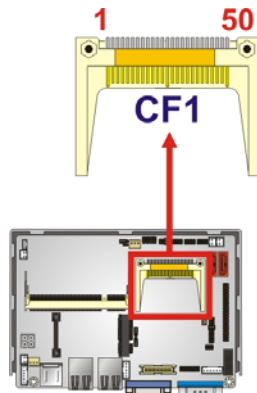

Figure 3-4: CF Card Socket Location
- CN Location:** See **Figure 3-4**